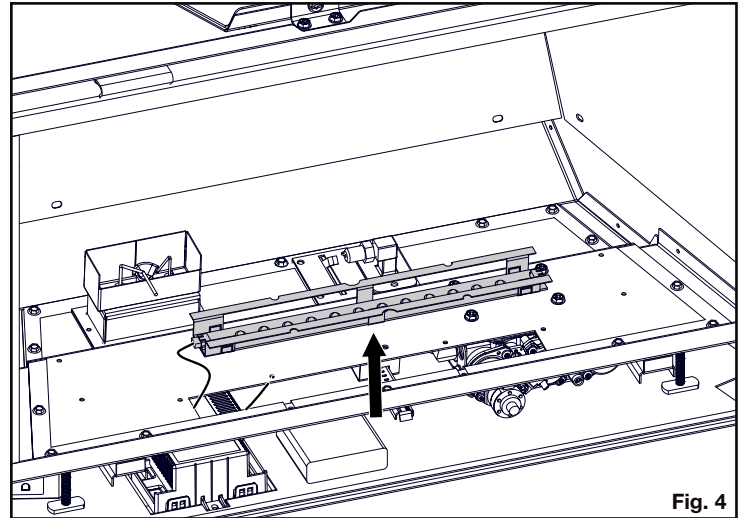

Fig. 4
- ☐ 7. Remove the LED strip and bracket ensure that the wire is not pulled out (**Fig. 4**).